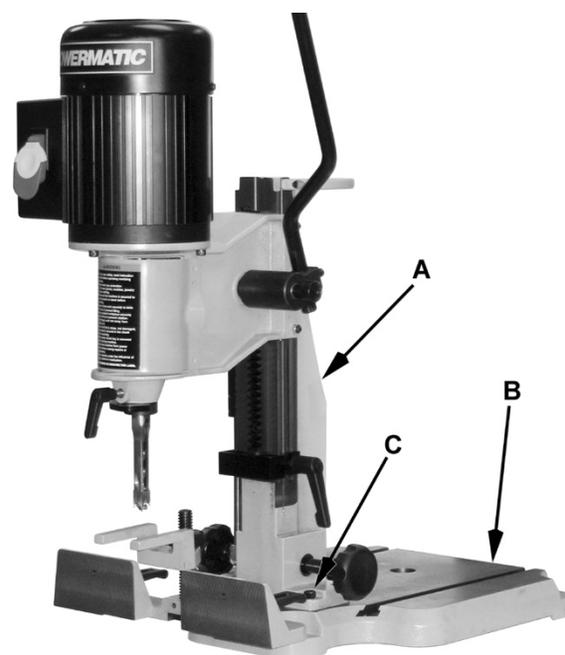

Figure 15
Referring to Figure 15:
1. Using a 4mm hex wrench, remove four screws, lock washers and flat washers (C) **NOTE:** only one screw is visible in Figure 15.
2. Rotate the column (A) 180°.